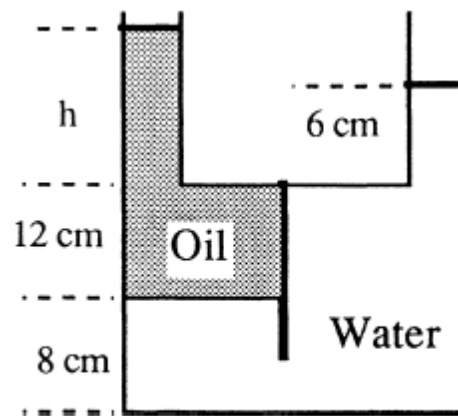

Fig. P2.12
2.12 In Fig. P2.12 the tank contains water and immiscible oil at 20°C. What is h in centimeters if the density of the oil is 898 kg/m³?